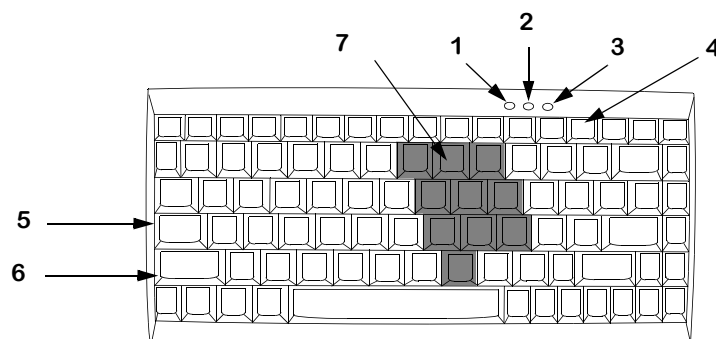

Figure 12 Keyboard Controls and Indicators
3.6 Keyboard. Refer to **Figure 12** and **Table 4** for explanation of controls and indicators for the Keyboard.